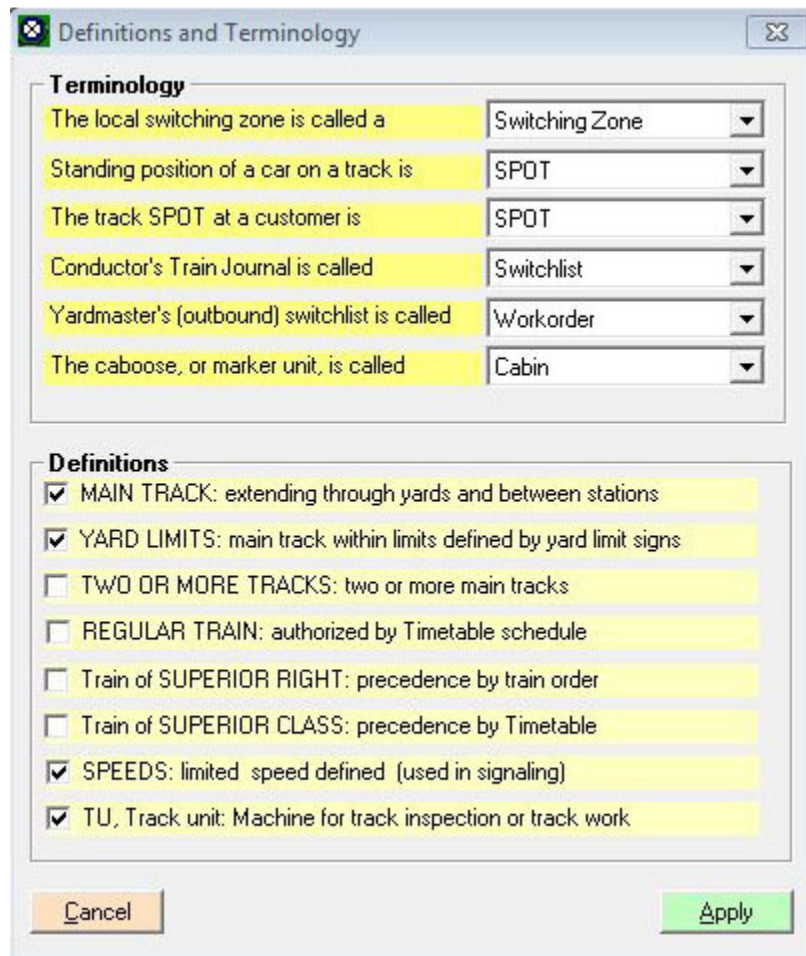

Figure 1-10
1. On the ProTrak toolbar, click on "Administration", then choose "Definitions and Terminology" from the dropdown list. A window like the one shown in Figure 1-10 will appear.
If any of the items shown in your window do not match those shown in Figure 1-10, change the item to bring it into line with what we will be using.